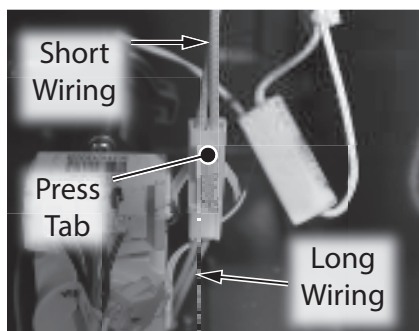

Figure 32 - Disconnect short heater block wiring from long heater block wiring
- 10 Locate the wire connection between the short heater block assembly and the long heater block assembly. Push tab to disconnect wires at connection point as shown in Figure 32.